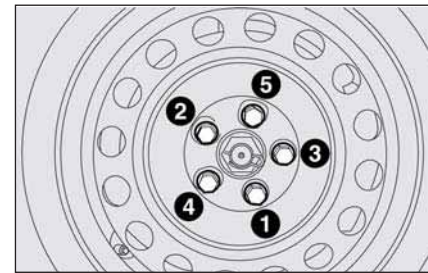

fig. 9
- use the wrench provided to fasten the bolts completely in a criss-cross fashion as shown in **fig. 9**.